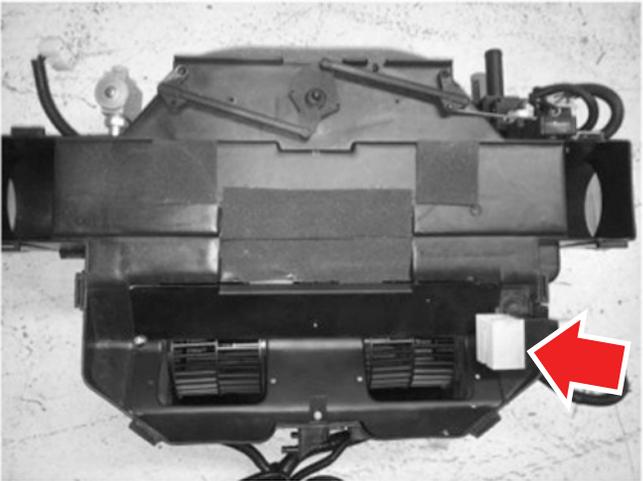

Figure 11-4
- 4. Remove the blower motor fan speed control module (see Figure 11-4).